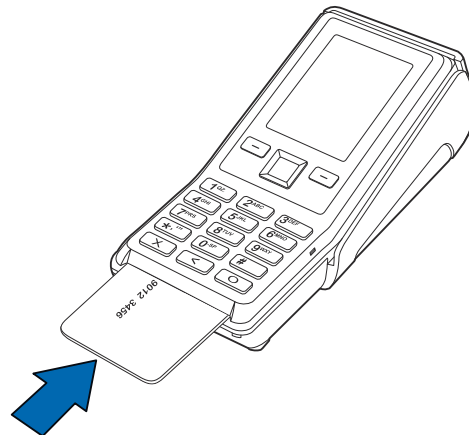

Figure 21 Inserting a Smart Card
Figure 21 shows a V200c example, but the same process works for V400c terminals.
- 1 Position a smart card with the contacts facing upward (see Figure 21).